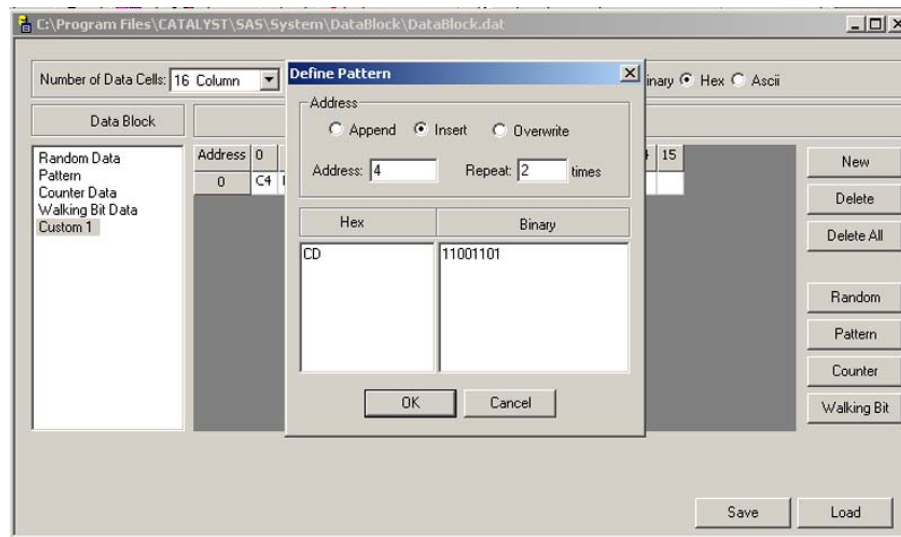

Figure 2.156: Define Your Own Data Pattern
1. Click **Pattern** to open the Define Pattern dialog box as shown in Figure 2.156